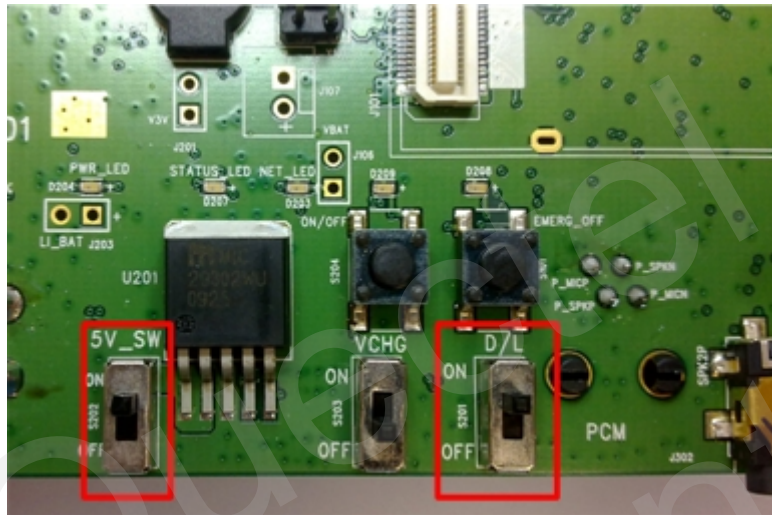

Figure 25: Switches state for firmware upgrade
- (1) Start the Firmware Upgrade Tool in PC.
- (2) Press the START button in the Firmware Upgrade Tool.
- (3) Switch the S3 and S1 in the EVB to ON state as shown in Figure 25.